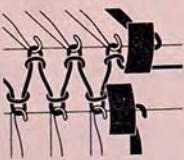

Fig. 68
- a) Increase 2 stitches at right. Lock at right, advance one needle each at back and front and put one沉器 each in rest-position, fig. 68. Move lock to left.